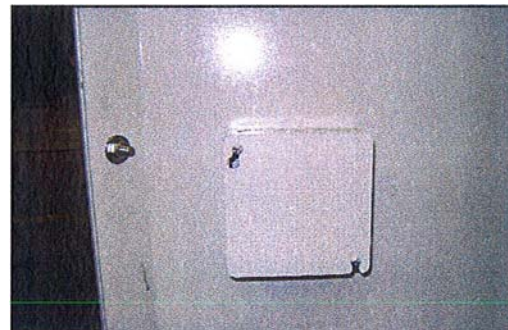

Figure 26
14. Bring power (proper voltage) to 4" box mounted on lower section of lift. See Figure 26.